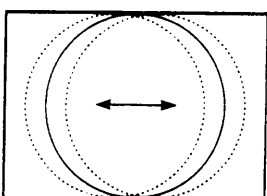

Fig 2.
- d: Adjust the horizontal location to obtain picture centring (fig. 2).